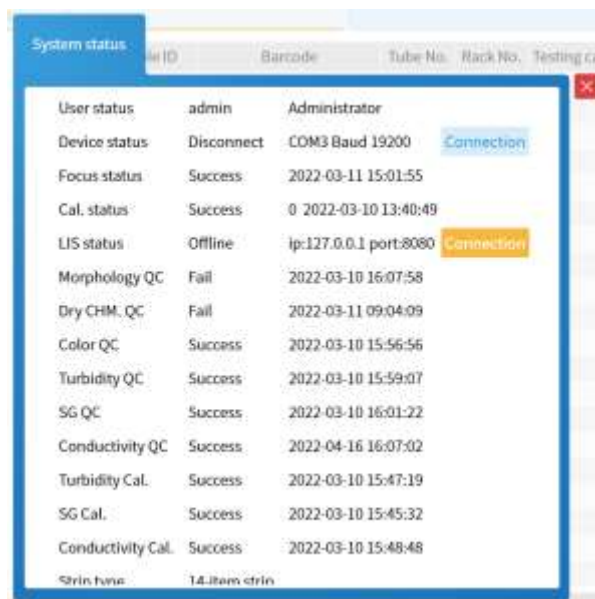

Figure 5-3 "System status" interface
As shown in Figure 5-3, pull out the emergency diagnosis rack ❶ to the outside. Put the emergency diagnosis sample tube ❷ into the round hole on the emergency diagnosis rack. Push the diagnosis rack back to its original position.